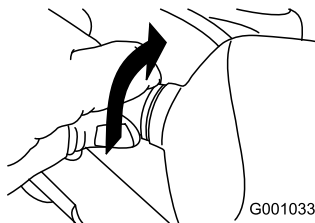

Figure 61
2. Turn the base of the bulb counterclockwise until it stops (Figure 61).